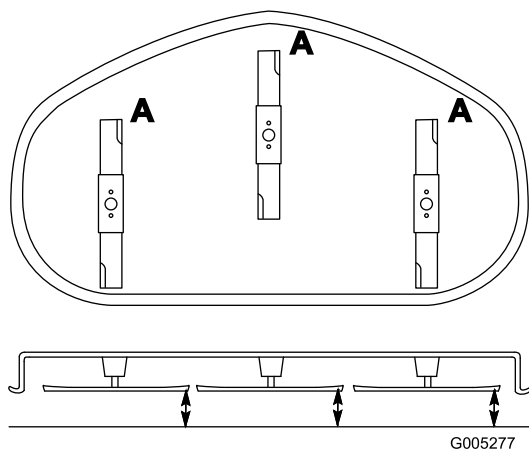

Figure 36
1. Rotate the blades until the ends face forward and backward (Figure 36). Measure from a level surface to the cutting edge, position 1.5, of the blades (Figure 36). Note this dimension.